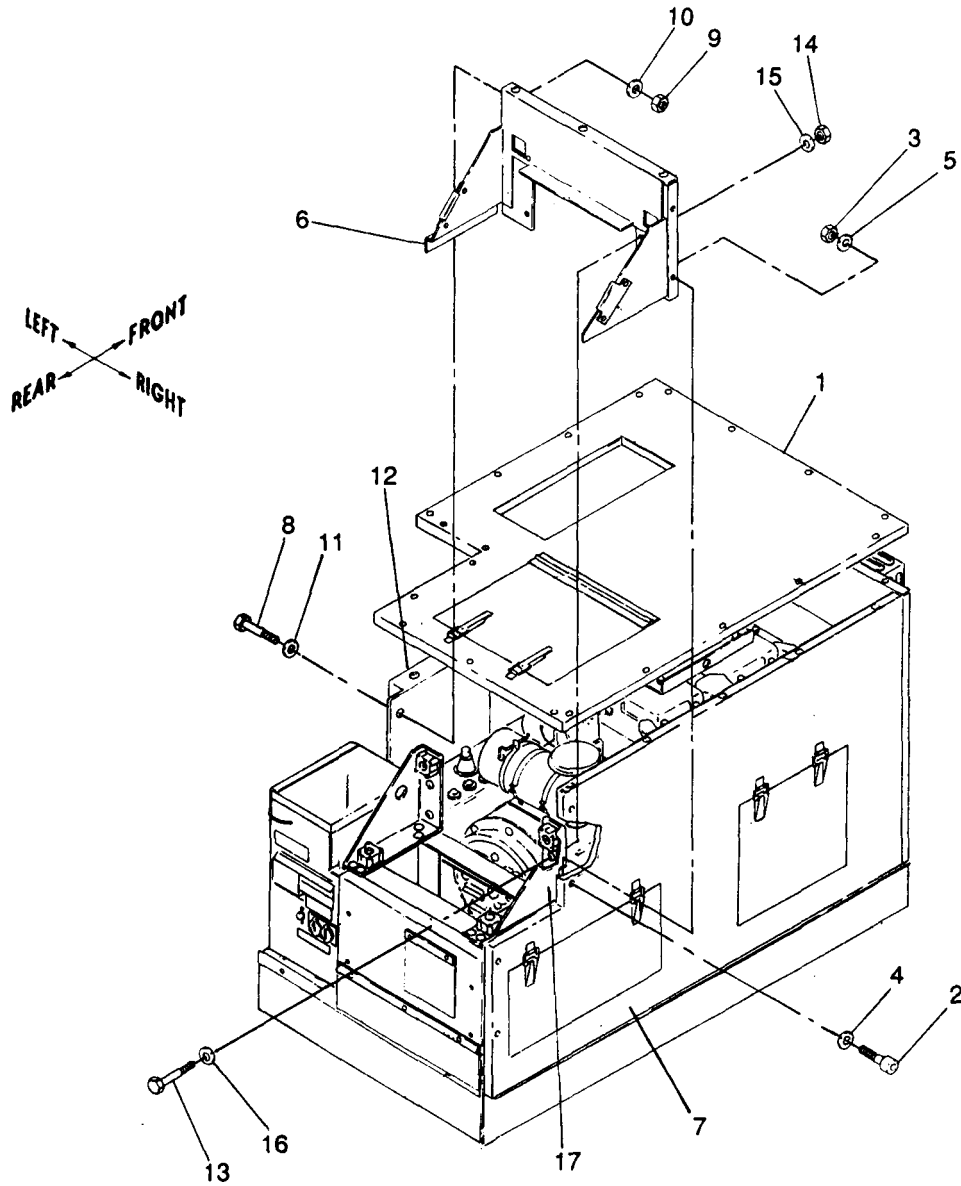

Figure 5-10. Rear Closure Assembly, Removal and Installation
a. Removal. See figure 5-10. Remove rear closure assembly from control box support, side closure assembly, right panel and top panel assemblies as follows:
(1) Remove top panel assembly (1) as described in paragraph 5-4.
(2) Remove two screws (2) and locknuts (3), and four washers (4 and 5) securing rear closure assembly (6) to right panel assembly (7).
(3) Remove two screws (8) and locknuts (9), and four washers (10 and 11) securing side closure assembly (12) to rear closure assembly (6).
(4) Remove four screws (13) and locknuts (14), and eight washers (15 and 16) securing rear closure assembly (6) to mounting brackets (17) and remove rear closure assembly (6).
b. Installation. See figure 5-10. Install rear closure assembly to control box support, side closure assembly, right panel and top panel assemblies as follows:
(1) Install four screws (13) and locknuts (14), and eight washers (15 and 16) securing rear closure assembly (6) to mounting brackets (17).
(2) Install two screws (8) and locknuts (9), and four washers (10 and 11) securing side closure assembly (12) to rear closure assembly (6).
(3) Install two screws (2) and locknuts (3), and four washers (4 and 5) securing rear closure assembly (6) to right panel assembly (7).
(4) Torque screws (2, 13, and 8) to 16 ±2 ft-lbs dry.
(5) Install top panel assembly (1) as described in paragraph 5-4.
(5) Rear Closure Assembly (refer to figure 5-10, item 6).